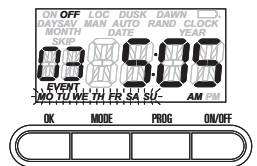

Fig. 18
4. Press **PROG** as many times as necessary to display the setting you want to revise, for example, DOW (Fig. 18).